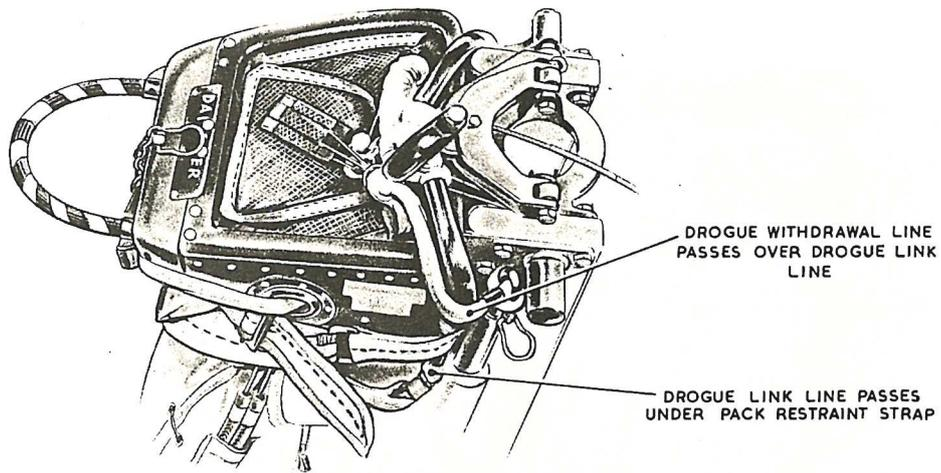

Fig. 3. Arrangement of drogue withdrawal and link lines
18. The following procedure is to be adopted when strapping into the seat; refer to fig. 3, 4, 5, 6, 7 and 8 for detail as necessary.